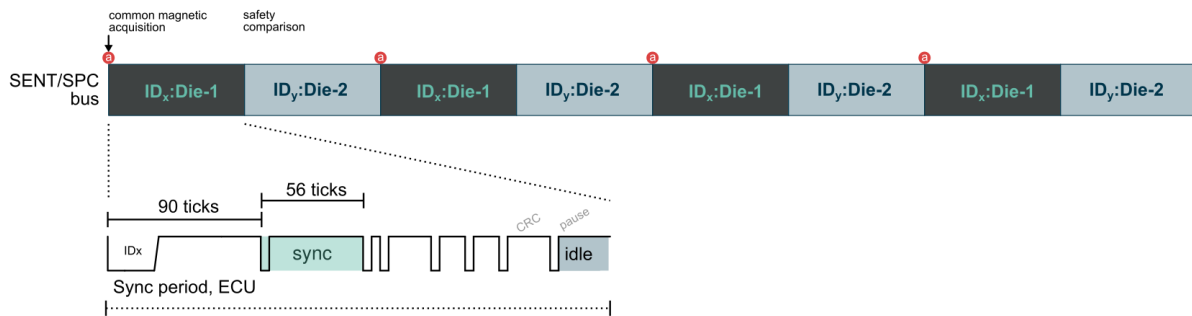

Figure 15 – Acquire Data during one SPC ID on all ICs on the same bus. Buffer and send when SPC ID matches.
2. All IC's on the bus acquire the data when a specific SPC ID is sent. Each IC buffers and transmits when called upon, see Figure 15.